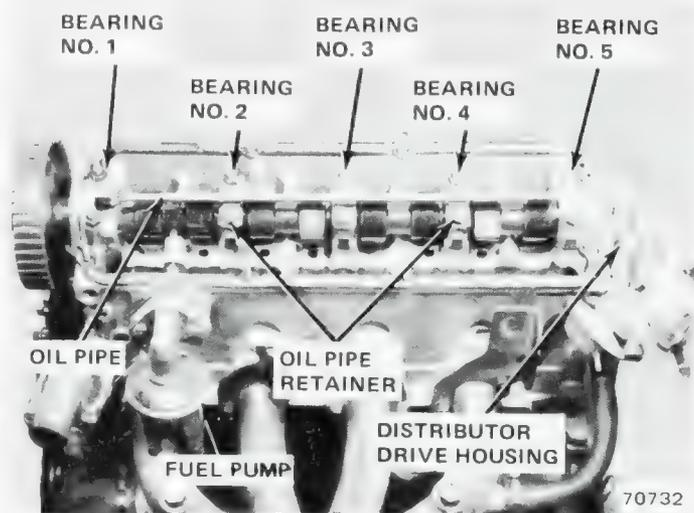

Fig. 1B-15 Camshaft and Bearings
- (1) Remove TAC flexible hose.
(2) Disconnect ignition wires from spark plugs. Disconnect clip from cylinder head cover. Remove distributor cap with ignition wires attached.
- (3) Loosen and remove accessory drive belts.
- (4) Remove camshaft drive belt guard.
- (5) Loosen tensioner and remove camshaft drive belt.
- (6) Remove camshaft sprocket. Use suitable tool wrapped in shop towel to prevent turning.
(7) Disconnect distributor primary wire and vacuum line. Remove distributor housing with distributor attached.
- (8) Remove PCV hose. Remove cylinder head cover.
- (9) Remove two 10 mm screws from number 5 bearing cap.
(10) Remove nuts from bearing caps 1, 3 and 5 (fig. 1B-15).